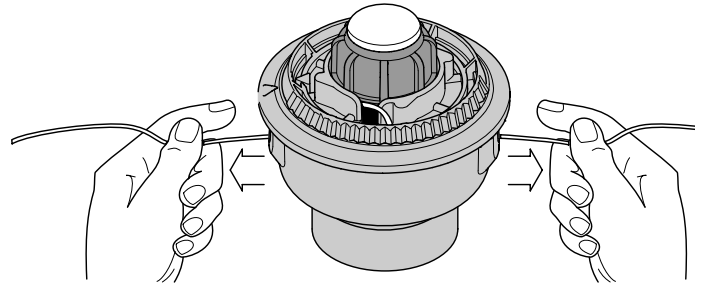

Fig. 46
9. If winding the line becomes difficult or if the line jams, pull the ends of the line from the spool (Fig. 46). Continue winding the inner reel counterclockwise until approximately 6 inches of line is left.
If the SpeedSpool™ does not release line correctly, pull the ends of the line firmly from the spool (Fig. 46). If this does not release the line, follow the *Cleaning the SpeedSpool™* instructions.